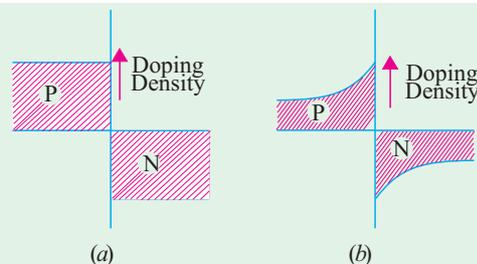

Fig. 54.25
Varactors may be of two types as shown in Fig. 54.25. The doping profile of the abrupt-junction diode is shown in Fig. 54.25 (a) and that of the hyperabrupt-junction diode in Fig. 54.25 (b). The abrupt-junction diode has uniform doping and a capacitive tuning ratio (TR) of 4 : 1. For example, if its maximum transition capacitance is 100 pF and minimum 25 pF, then its TR is 4 : 1 which is not enough to tune a broadcast receiver over its entire frequency range of 550 to 1050 kHz.